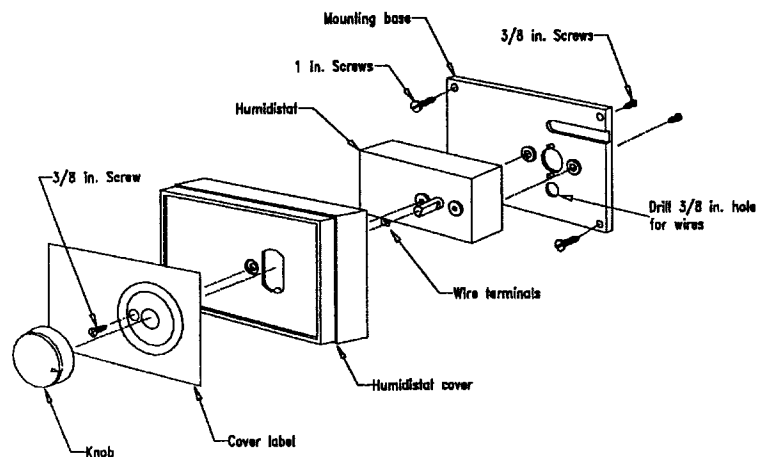

Figure 2 Wiring Diagram
- 2 **For conversion to a wall mount configuration, simply pull the indicator knob off and remove the mounting screws, and rotate the control 180° and reattach the mounting base Fig 2.**